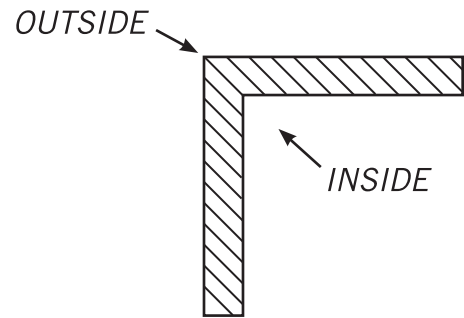

Figure 1
3. Add your total linear feet of outside corner. (Figure 1)